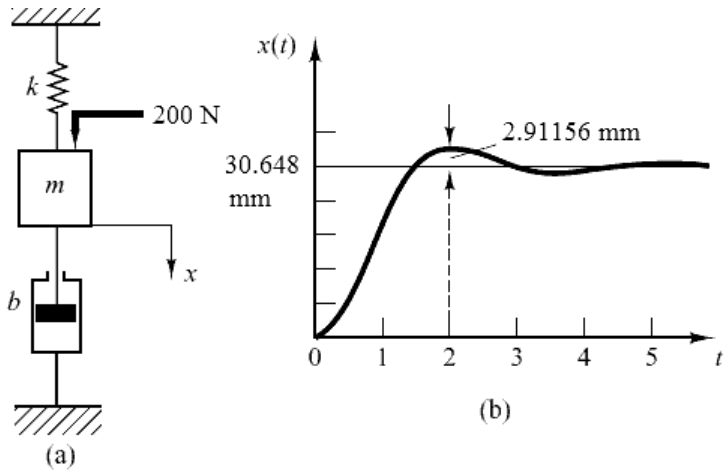

Figure 3
- (b) A mechanical system (Figure 3(a)), is subjected to a step input of 200 N. The response curve for the same is shown in Figure 3(b). Determine mass m , spring constant k and damping coefficient b of the system from this response curve. **07**